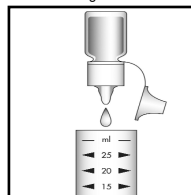

Figure 2
2. Add 4 drops (3 drops for K-9510B) of A-9500 Activator Solution (fig. 2). Cap the cup and shake it to mix the contents well.